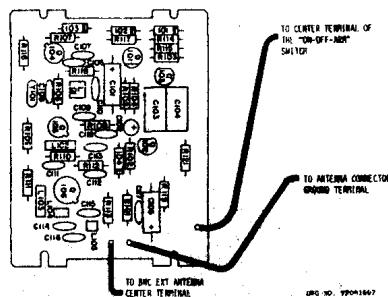

FIGURE 7. PRINTED CIRCUIT BOARD CONNECTIONS
1. Note location and unsolder three lead connections (See Figure 7).